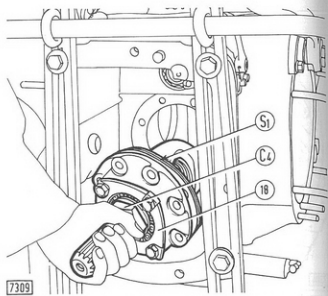

Fig. 127 - Dismantling (or Reassembling) Bevel Pinion Carrier
Withdraw the bevel pinion carrier assembly (see Fig. 127) and dismantle on bench. To do this, unscrew nut (C₄) remove bearing plate (18) and, using a hydraulic press, withdraw the pinion from the associated carrier (see Fig. 128).